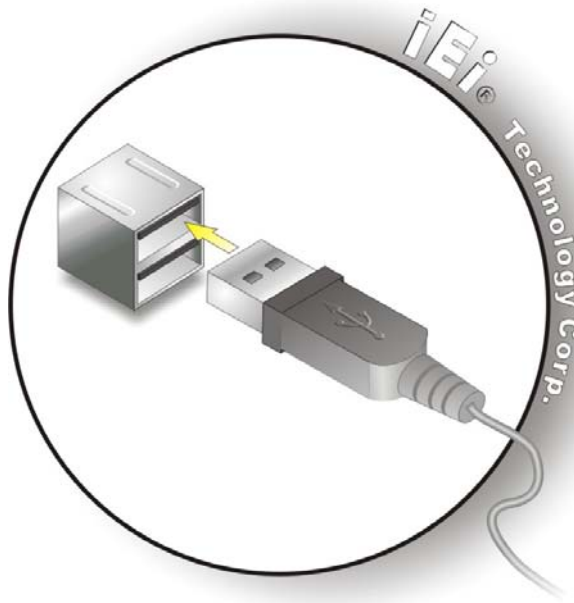

Figure 4-12: USB Connector
Step 2: Insert a USB Series "A" plug. Insert the USB Series "A" plug of a device into the USB Series "A" receptacle on the external peripheral interface. See **Figure 4-12**.